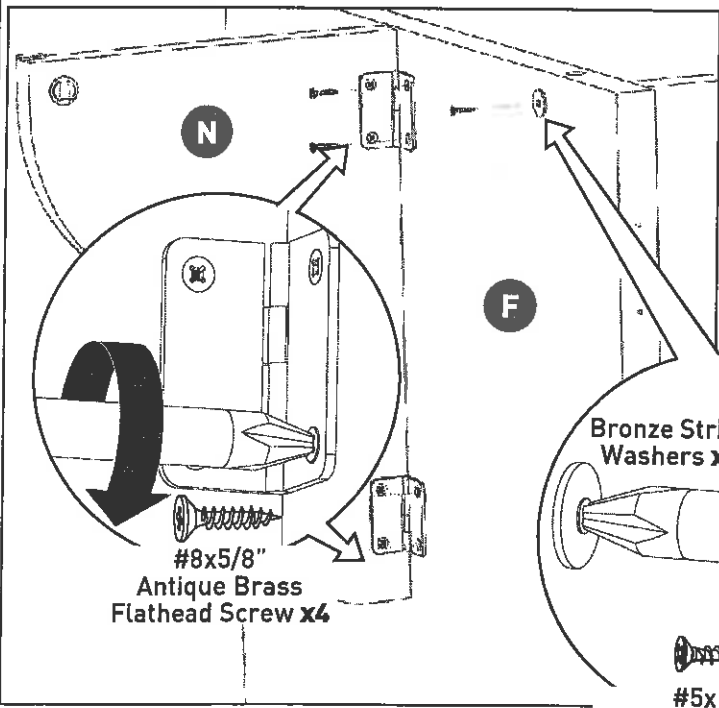

FIG. 20
Step 21. Using 2 people CAREFULLY lift and turn the cabinet right side up placing the unit on the 4 casters. **Step 22.** Attach both Leaf Supports (R & N) to outside of Left Side (E) & Right side (F) with #8x5/8" Antique Brass Flathead Screws (x8).
Part (R) will attach to Left Side (E) (Fig. 21) & N to Right Side (F) (Fig. 20). Attach the Bronze Strike Washers (x2) with #5x1/2" Flathead Screws (x2) to both Side Panels (E & F).